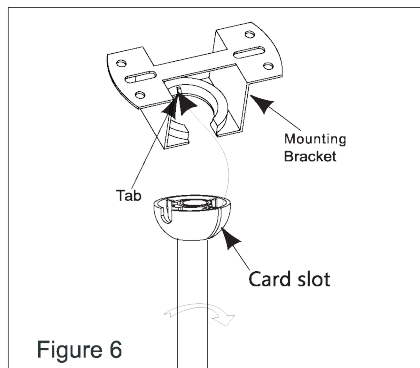

Figure 6
6. Carefully lift the fan and place the suspension rod and ball assembly into the suspension bracket attached to the ceiling joist. Make sure the ball slot is properly aligned with the tab on the suspension bracket. (Figure 6)